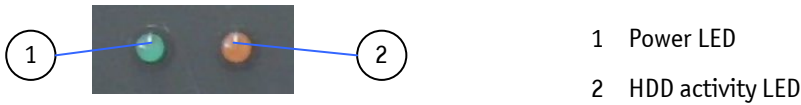

Fig. 15: LED indicators on the front side
Power LED (green)	This LED (Fig. 15, pos. 1) lights up green when the system is turned on by pressing the power button. Prerequisite: The system has to be connected to an appropriate AC/DC power source. For system configuration with AC PSU, the power ON/OFF switch of the AC PSU must be set to ON.
HDD LED (orange)	This LED (Fig. 15, pos. 2) lights up during hard disk activity.